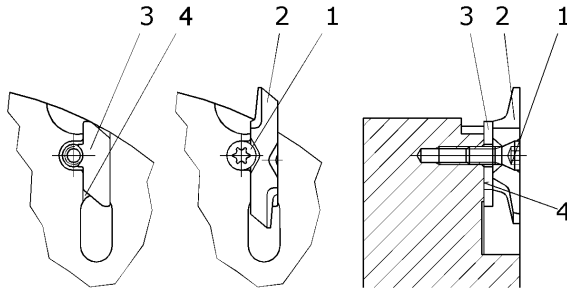

Fig.1
(See Fig. 1)
2. Loosen the screw (1) with the Torx key and remove it completely from the knife seat.
3. Remove the four-corner knife and shim (if shim exists) (3) from the knife seat.
4. Clean the knife seat (4) and all of the components that go with it. Be sure all clamping surfaces are free from dirt, oil, grease and water.
6. Carefully insert the reversed or new four-corner knife (see Fig. 1).